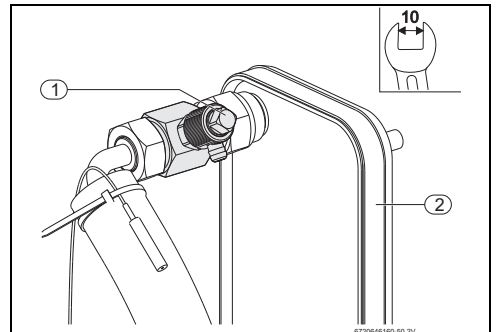

Fig. 13 Purge valve
- ▶ Open purge valve (at least one complete rotation, Fig. 13, [1]) until water drops out through the purge valve outlet. Ensure that water drains correctly.